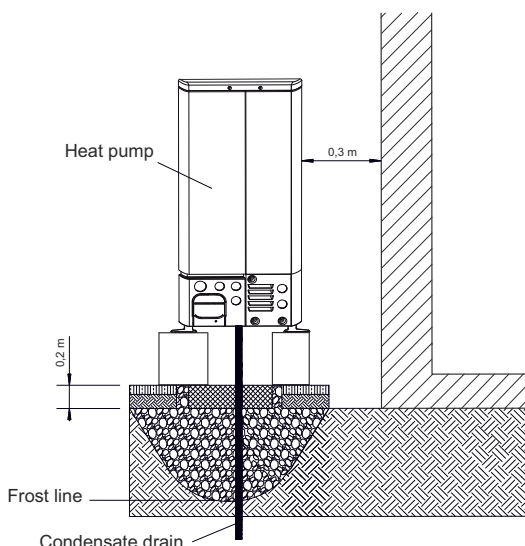
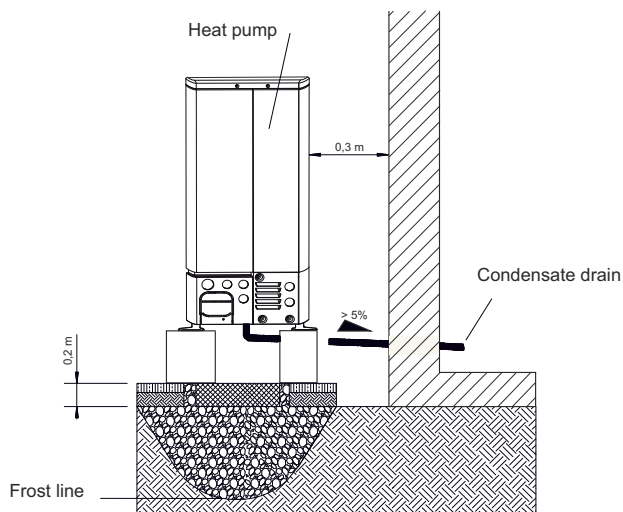

Fig. 4.1
Fig. 4.2
- It is advisable to install the outdoor unit close to a wall, on a foundation separate from the building with a minimum clearance of 0.3 m on the intake side (Fig.4.1 + Fig.4.2).
- The minimum clearances (Fig.4.1) indicated must be adhered to.